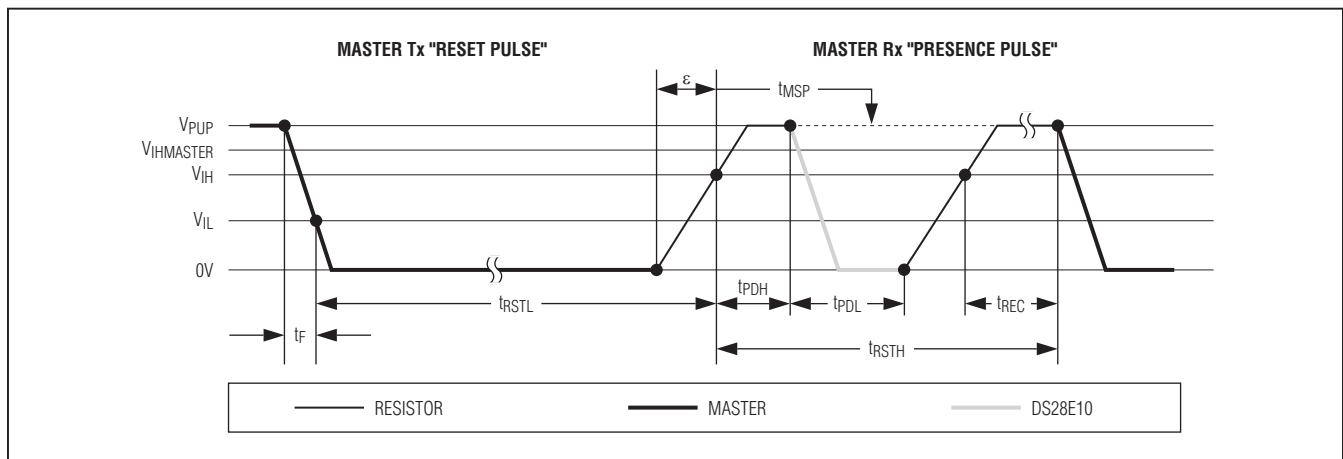

Figure 9. Initialization Procedure: Reset and Presence Pulse
To get from idle to active, the voltage on the 1-Wire line needs to fall from V_{PUP} below the threshold V_{IL} . To get from active to idle, the voltage needs to rise from 0V past the threshold V_{IH} . The time it takes for the voltage to make this rise is seen in Figure 9 as ϵ , and its duration depends on the pullup resistor (R_{PUP}) used and the capacitance of the 1-Wire network attached.
Figure 9 shows the initialization sequence required to begin any communication with the DS28E10. A reset pulse followed by a presence pulse indicates that the DS28E10 is ready to receive data, given the correct ROM and memory function command. If the bus master uses slew-rate control on the falling edge, it must pull down the line for $t_{RSTL} + t_F$ to compensate for the edge. A t_{RSTL} duration of 480 μ s or longer exits the overdrive mode, returning the device to standard speed. If the DS28E10 is in overdrive mode and t_{RSTL} is no longer than 80 μ s, the device remains in overdrive mode. If the
- 1) Generate a reset/presence detect sequence (see Figure 9).